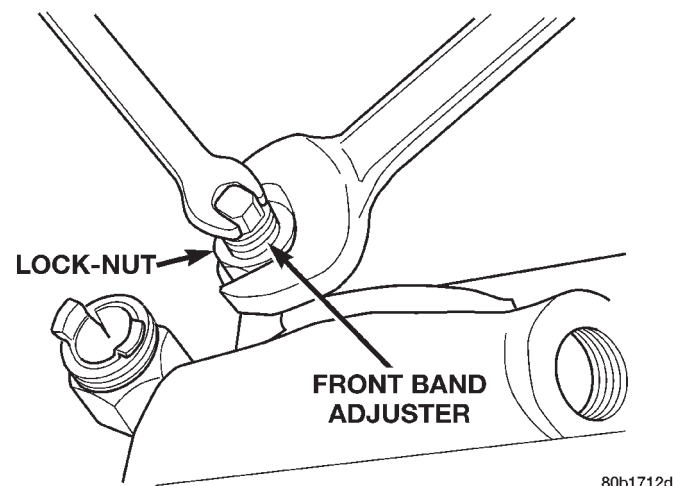
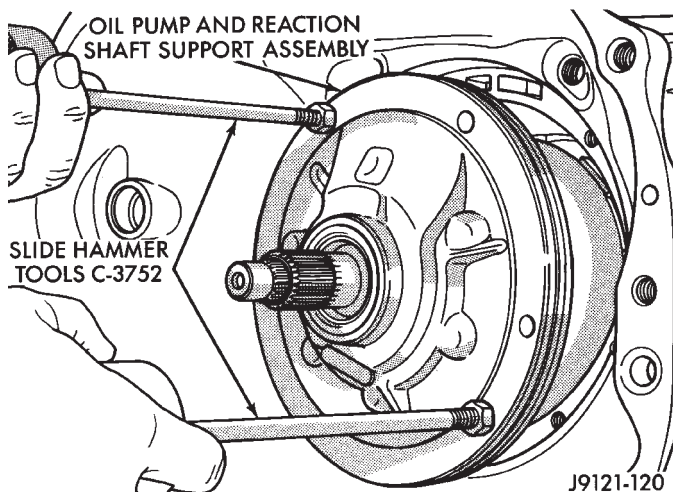

Fig. 72 Front Band Adjusting Screw Lock Nut
Fig. 73 Oil Pump/Reaction Shaft Support
(12) Loosen front band adjusting screw lock nut (Fig. 72) 4-5 turns. Then tighten band adjusting screw until band is tight around front clutch. This prevents front/rear clutches from coming out with pump and possibly damaging clutch or pump components.
(13) Remove oil pump bolts.
(14) Thread bolts of Slide Hammer Tools C-3752 into threaded holes in pump body flange (Fig. 73).
(15) Bump slide hammer weights outward to remove pump and reaction shaft support assembly from case (Fig. 73).
(16) Loosen front band adjusting screw until band is completely loose (Fig. 72).